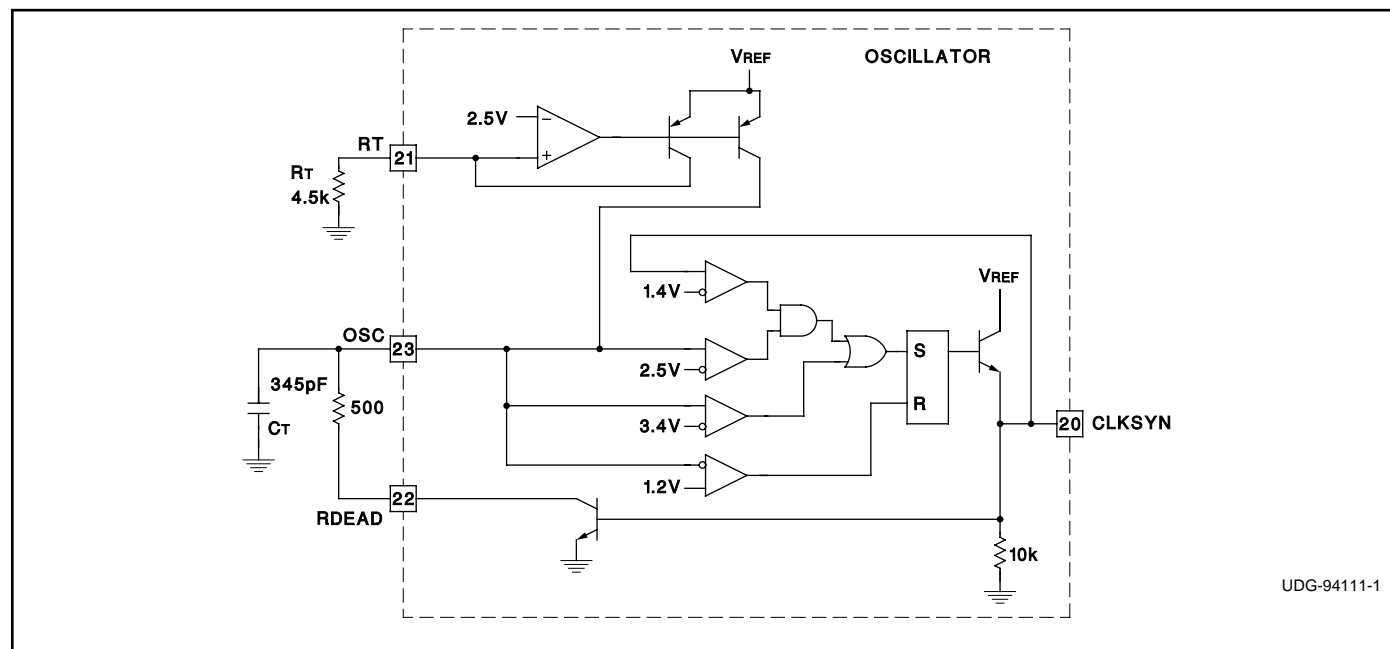

Figure 1. Oscillator Block with External Connections
**PWM Oscillator:** The oscillator block diagram with external connections is shown in Figure 1. A resistor ( $R_T$ ) connected to pin RT sets the linear charge current;
ing 100pF capacitors in series with each CLKSYN pin and connecting the other side of the capacitors together forming the CLKSYN bus. The CLKSYN bus is then pulled down to ground with a resistance of approximately 10k. Referring to Figure 1, the synchronization threshold is 1.4V. The oscillator blanks any synchronization pulse that occurs when OSC is below 2.5V. This allows units, once they discharge below 2.5V, to continue through the